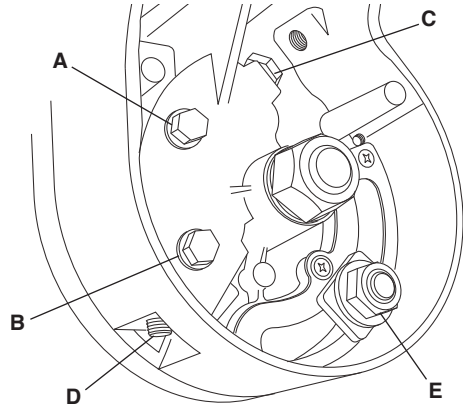

Figure 6. Calibrating Blade at 0 degrees (90 to the table)
2. Loosen bolt heads "A" and "B" with 10 mm open-end wrench at least one full turn (Figure 6).
3. Place 4 mm Allen wrench bit onto multi purpose tool and into setscrew "D" (Figure 6).
2. Place 17-mm open-end flat wrench on bolt head "E" (Figure 6).